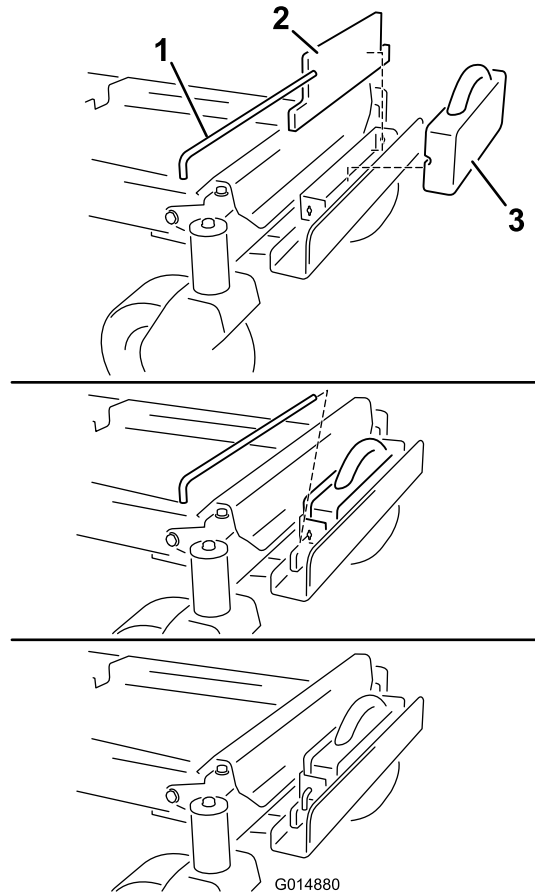

Figure 9
8. Install a flat weight to the weight bracket and move it rearward, flush with the bracket (Figure 9).
9. Install a suitcase weight in front of the flat weight (Figure 9).
10. Secure the weights to the weight bracket with a keyed crossbar (Figure 9). Install the bar and rotate it 90 degrees downward to lock it in place.